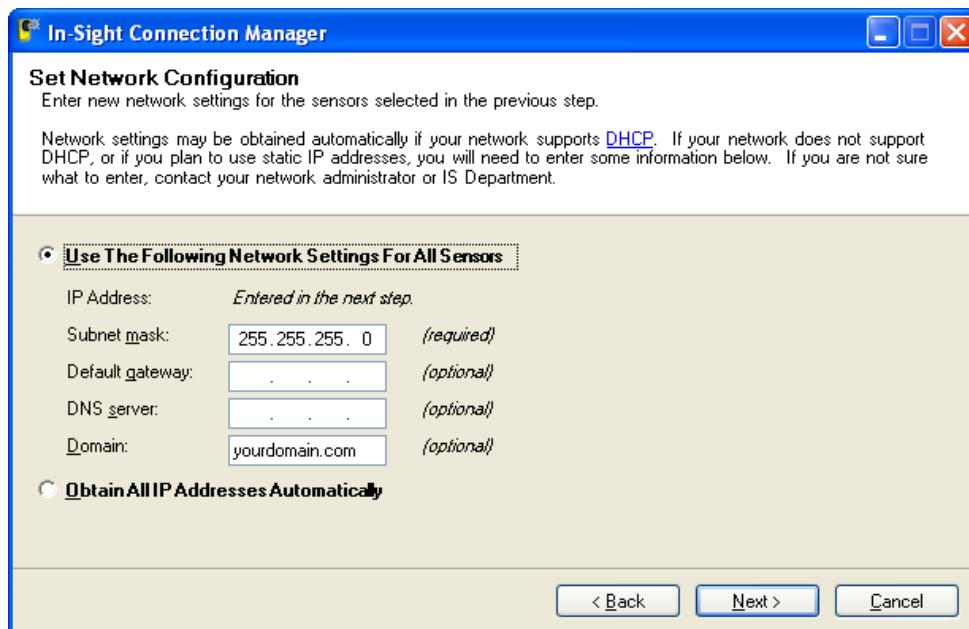

Figure 4-4: Set Network Configuration Dialog
9. In the Set Network Configuration dialog (Figure 4-4), select the first option, **Use The Following Network Settings For All Sensors**.